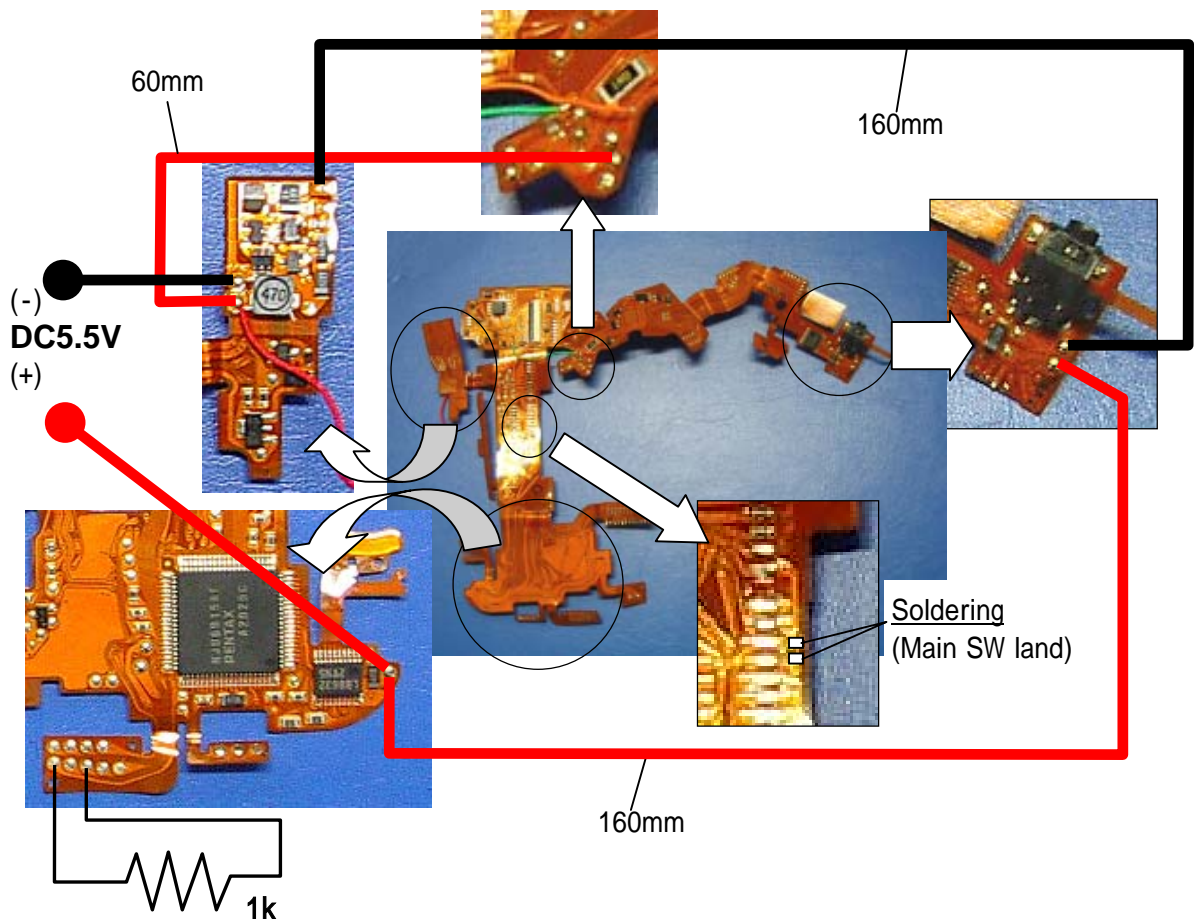

Fig.85
- 3) Solder 1k resistance to the place instructed in Fig.85.